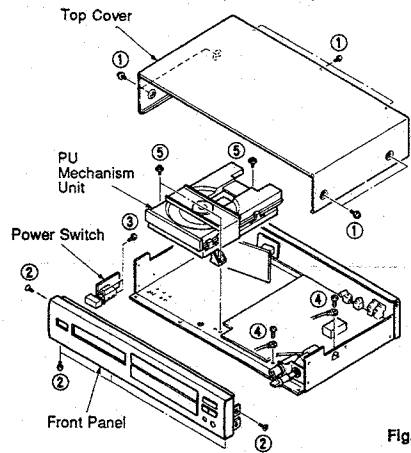

Fig. 1
- a. Remove 7 screws (①) in Fig. 1.
- a. Remove 5 screws (②) in Fig. 1.
- c. Remove the Power Switch by removing 2 screws (③) in Fig. 1.
- e. Remove 2 ground wires by removing 2 screws (④) in Fig. 1. (CDX-870 only)
- a. Remove 3 screws (⑤) in Fig. 1.